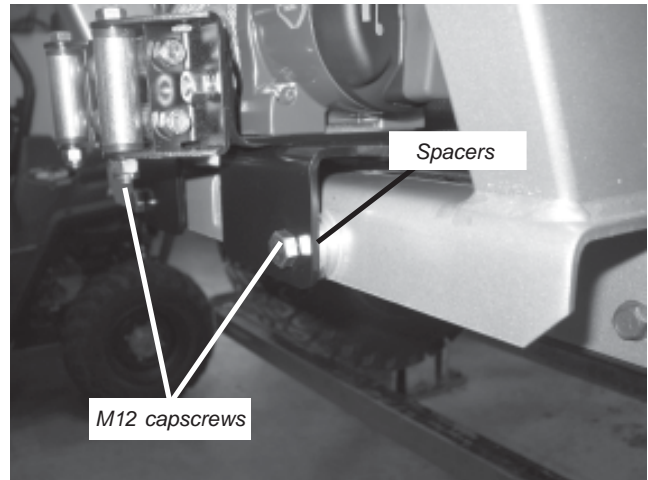

Figure 7
7. Set winch mount plate assembly on top of bumper as shown in Figure 7. Insert two spacers between mounting plate and bumper on each side and install M12-1.25 capscrews with 17mm socket. Torque to 75 lb. ft. (101.7 N-m).